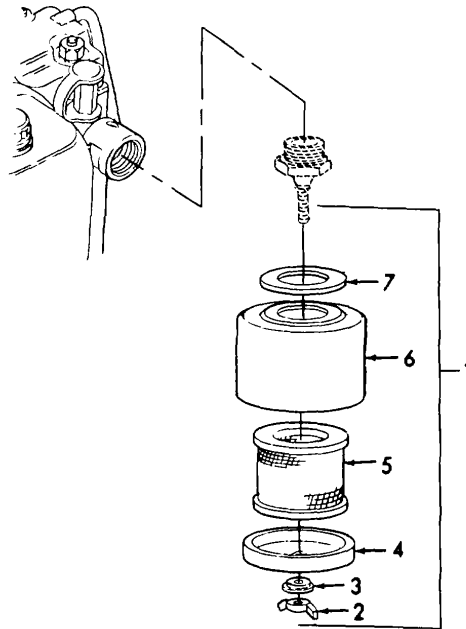

Figure 4-2. Air Filter Assembly.
a. Removal. (Refer to figure 4-2).
- (1) Remove air filter assembly (1) by unscrewing by hand from air intake.